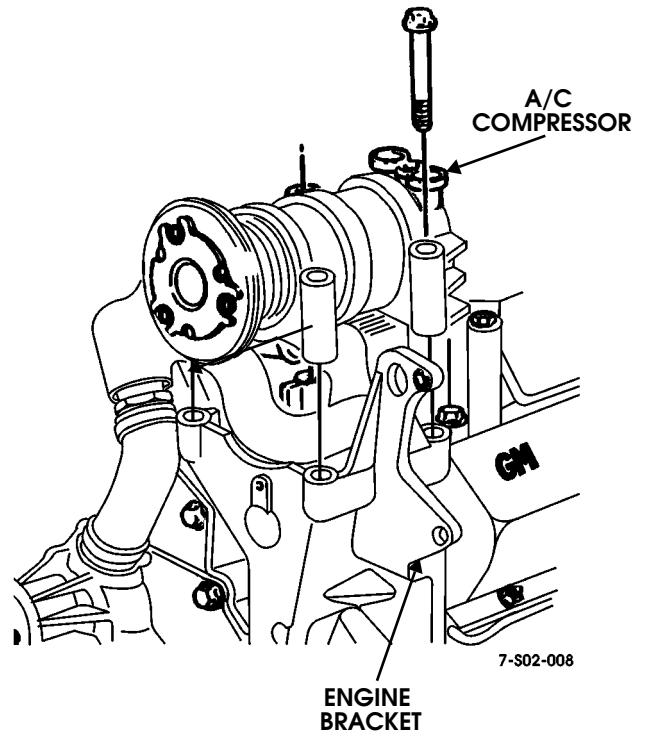

Figure 2-84: A/C Compressor Removal
2. Remove bolts/nuts attaching compressor to mounting bracket and remove compressor (Figure 2-84).